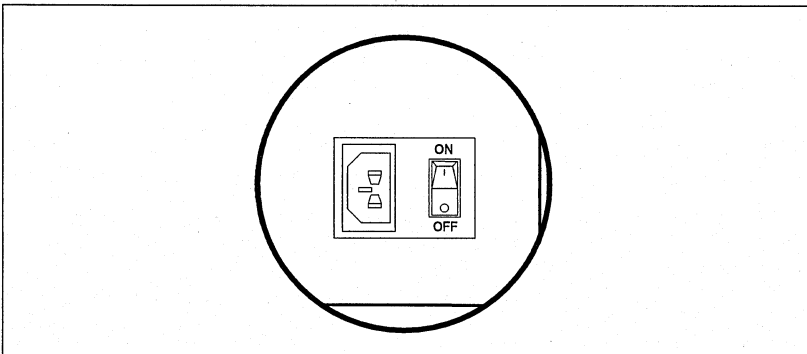

fig. 1-4
1. Insert the female end of the AC power cord into the AC power cord connector on the rear of the main unit (fig. 1-4). Plug the other end into a power outlet.